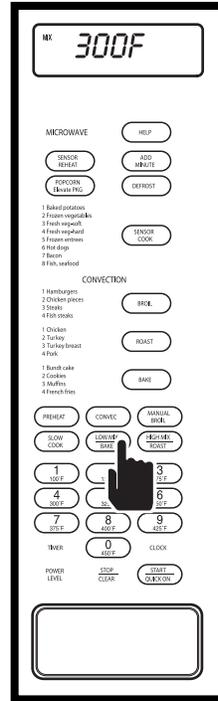

Figure 3-89. Press LOW MIX/BAKE Key
1. Press LOW MIX/BAKE key, "300F - ENTER - COOKING - TIME" will flash on display. (See Figure 3-89)